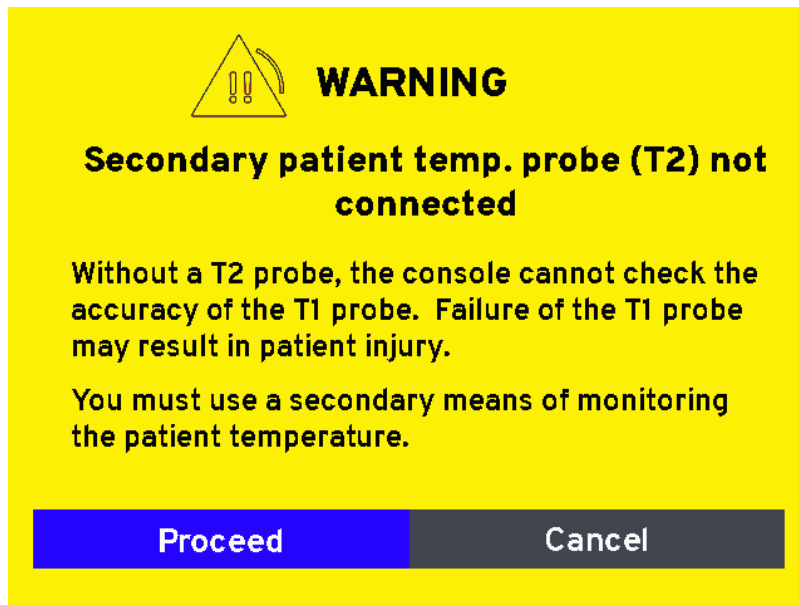

Figure 4.18. Secondary patient temperature probe (T2) not connected warning
3. If there is no T2 patient temperature probe present, the console asks you to verify that this is intentional. See Figure 4.18.
If you disconnect a T2 patient temperature probe in Standby, the console assumes that this is intentional and does not trigger an alert. When the console is placed into Run without a T2 patient temperature probe present, you see Figure 4.18, “Secondary patient temperature probe (T2) not connected warning,” on page 45.